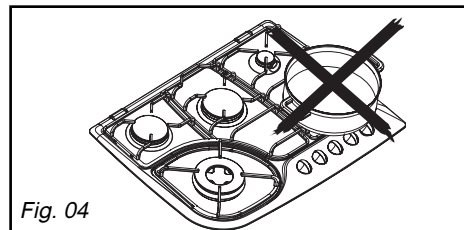

Fig. 04
- Do not use cookware that partially covers the knobs (Fig. 04).